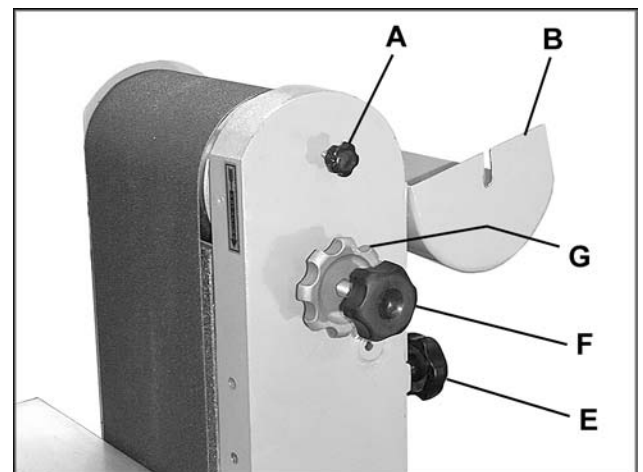

FIGURE 5
To install or replace an abrasive belt, proceed as follows (Figures 5 and 6):
1. To properly align the abrasive belt, tighten the belt tension screw (E) until the belt is relatively tight. See Figure 5.
3. Make final adjustments to the tracking by momentarily starting and stopping the motor while at the same time adjusting the tracking screw (F), Figure 5, at the side of the belt arm. To lock the screw in place, rotate the tracking screw locking nut (G) against the belt arm.